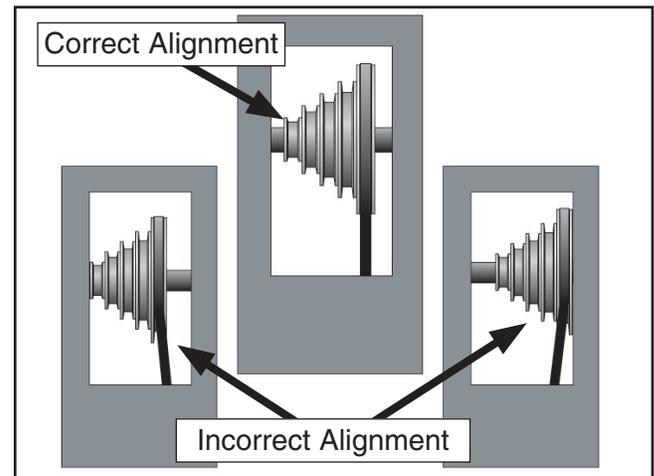

Figure 38. Proper belt alignment.
5. Adjust the spindle pulley position on the spindle shaft to ensure proper belt alignment (**Figure 38**).